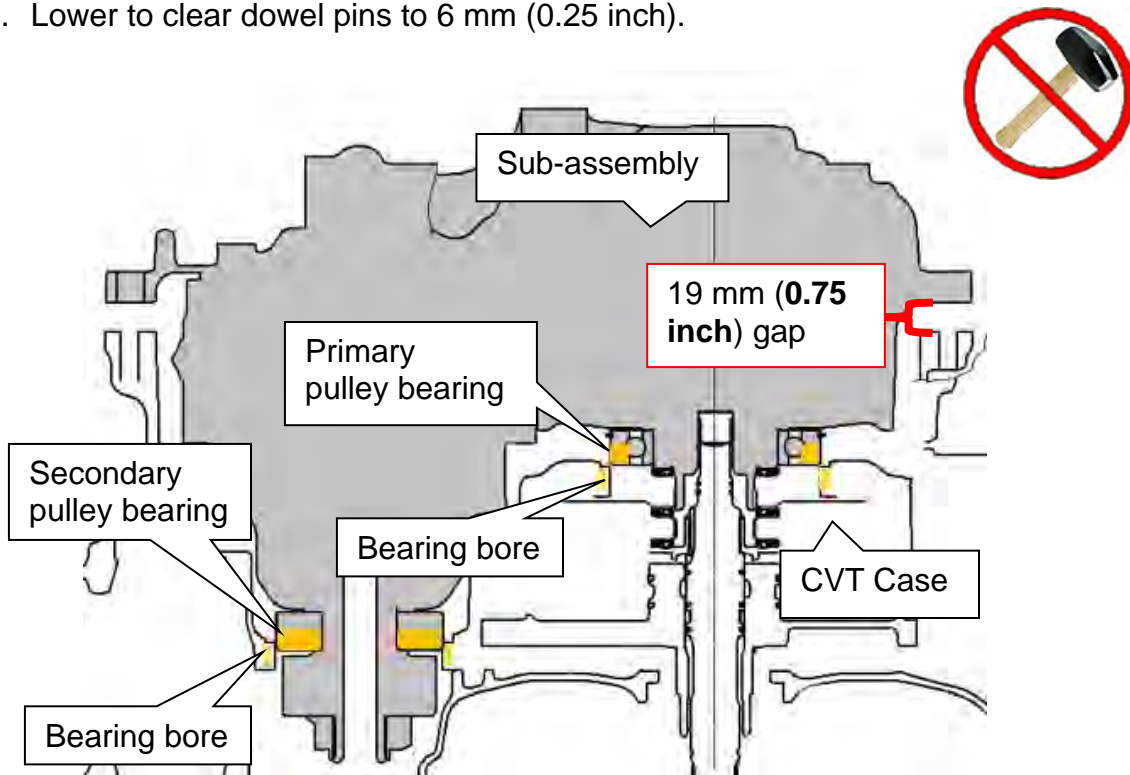

Figure 37F
- If the primary and the secondary pulley bearings do not align properly with their bores (Figure 37F) or are at an angle, a **gap of 19 mm (0.75 inch)** may be present.